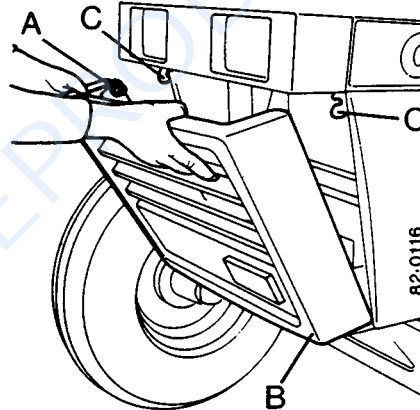

FIGURE 55. REMOVING THE FRONT PANEL
2. Pull the top of the panel forward as shown in Figure 55. Lift the panel clear of the tractor.